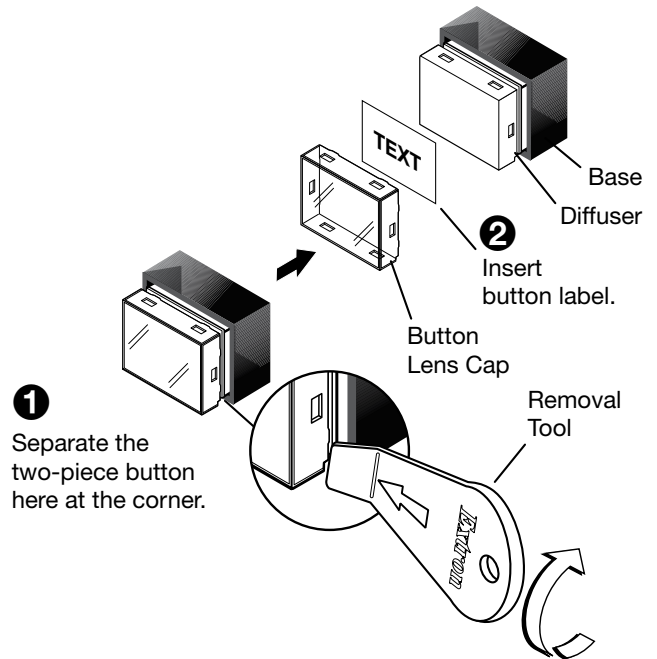

Figure 7. Replacing Button Labels on the EBP 103 D
2. Gently separate the button cap from its white diffuser: insert the end of the provided Extron removal tool into the corner notch and gently twist the tool (see figure 7, ①).
Attach cables using the diagrams in this section as a guide. Connect a 4-pole captive screw connector to each end of the cable, wiring both ends as shown in figure 7. In most cases the EBPs are powered by the IPCP Pro control processor that provides the eBUS signal. Power is carried on the V+ pin of each eBUS connection.